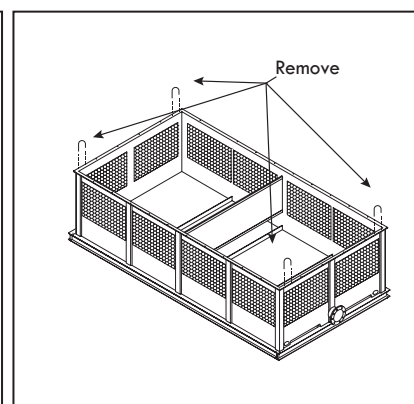

Figure A-48: Removing U-bolts from basin section of an RTG model.
- G. After the basin has been set in place, remove the U-bolts located on the flange before installing the next section (see Figure A-48).